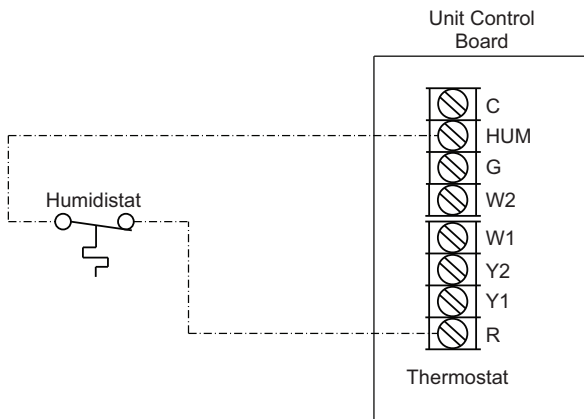

Fig. 37 — Humidistat Connections to UCB
5. Connect one of the leads from the 2-conductor cable to the HUM terminal on the UCB (Unit Control Board). Connect the other lead to the R terminal on the UCB. See Fig. 37.